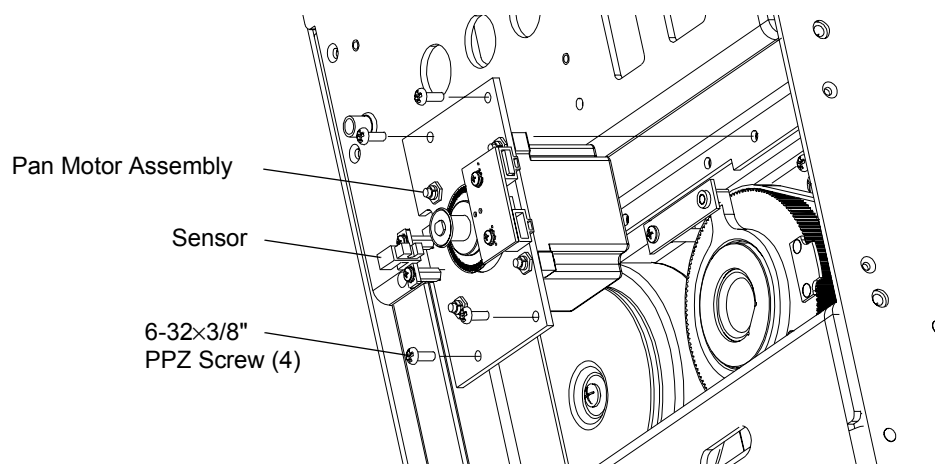

Figure 2-20: Pan Motor Assembly Replacement
Step 3. At pan motor assembly, remove four 6-32×3/8" PPZ screws. **Figure 2-20.**